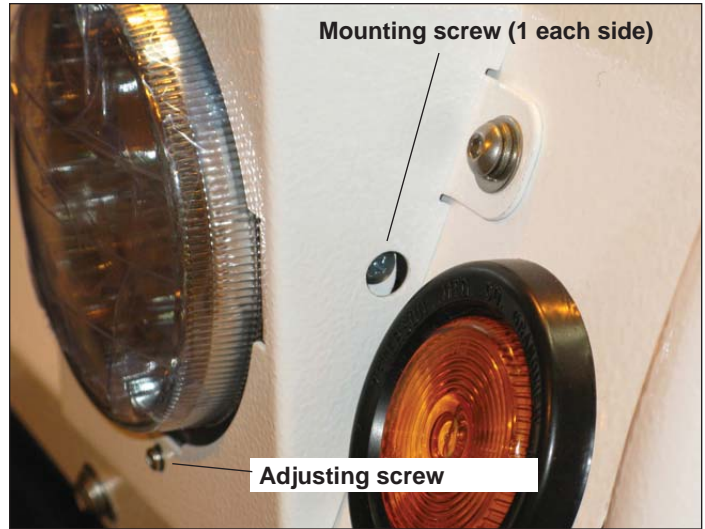

Figure 7-1. Front Headlight and Turn Signal Lamp
1. Remove side mounting screws and adjusting screw from the headlight assembly (Figure 7-1).
Use the adjusting screw to level the headlight (Figure 7-1)
1. Disconnect wire plug from back of turn signal lamp (Figure 7-1).